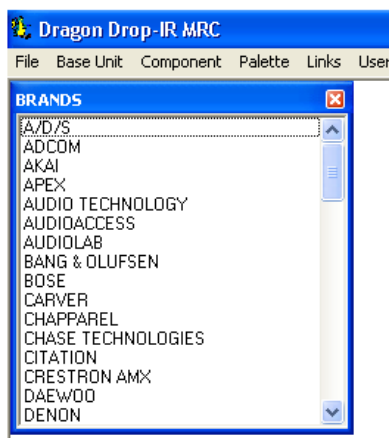

Figure 17
2. Locate and Select (single click) the desired BRAND as shown in **Figure 17** (i.e. Sony, Panasonic etc). A list of Components will appear. (See later section for ‘Adding Brands’.)